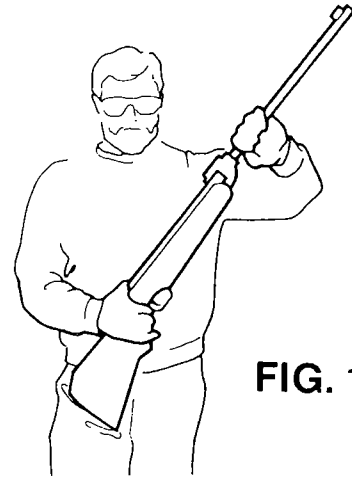

FIG. 1
- Grasp the rifle by the pistol grip with one hand (make sure you do not touch the trigger) and place your other hand over the barrel. (Fig. 1.)